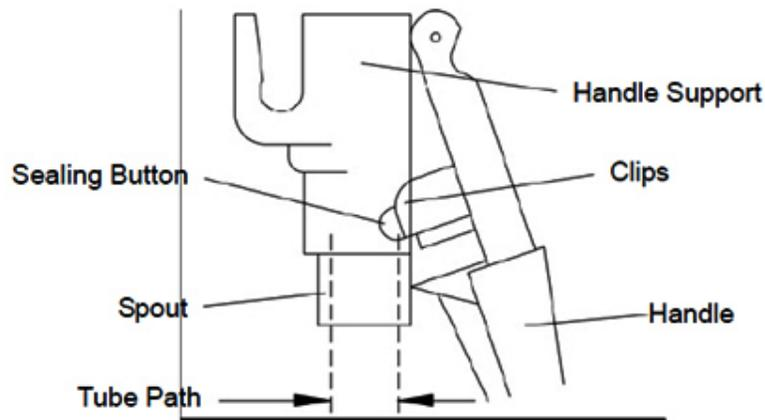

Figure 3.
1. Removing the push handles. See Figure 3.
- D. Carefully insert pinch tube into the bowl spout opening and on into the lower opening of the handle support spout (See Figure 3.). Make sure the end of the tube does not get caught on the edge above the handle support spout opening. Pull the end of the tube to seat it firmly into the bowl spout seat. Make sure the tube is free of wrinkles and extends below the support spout about a 1/4 inch. (See Figure 9.)